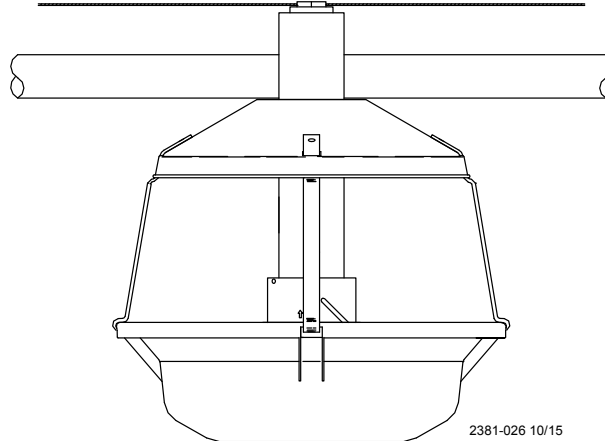

Figure 28. Install Feeders on Tubes
2. Rotate the feeder tube so the tab at the outlet hole will pass through the notch in the drop tube. Rotate the tube 180 degrees to lock the pans in place, **see figure 28**. Make sure outlet holes are down.